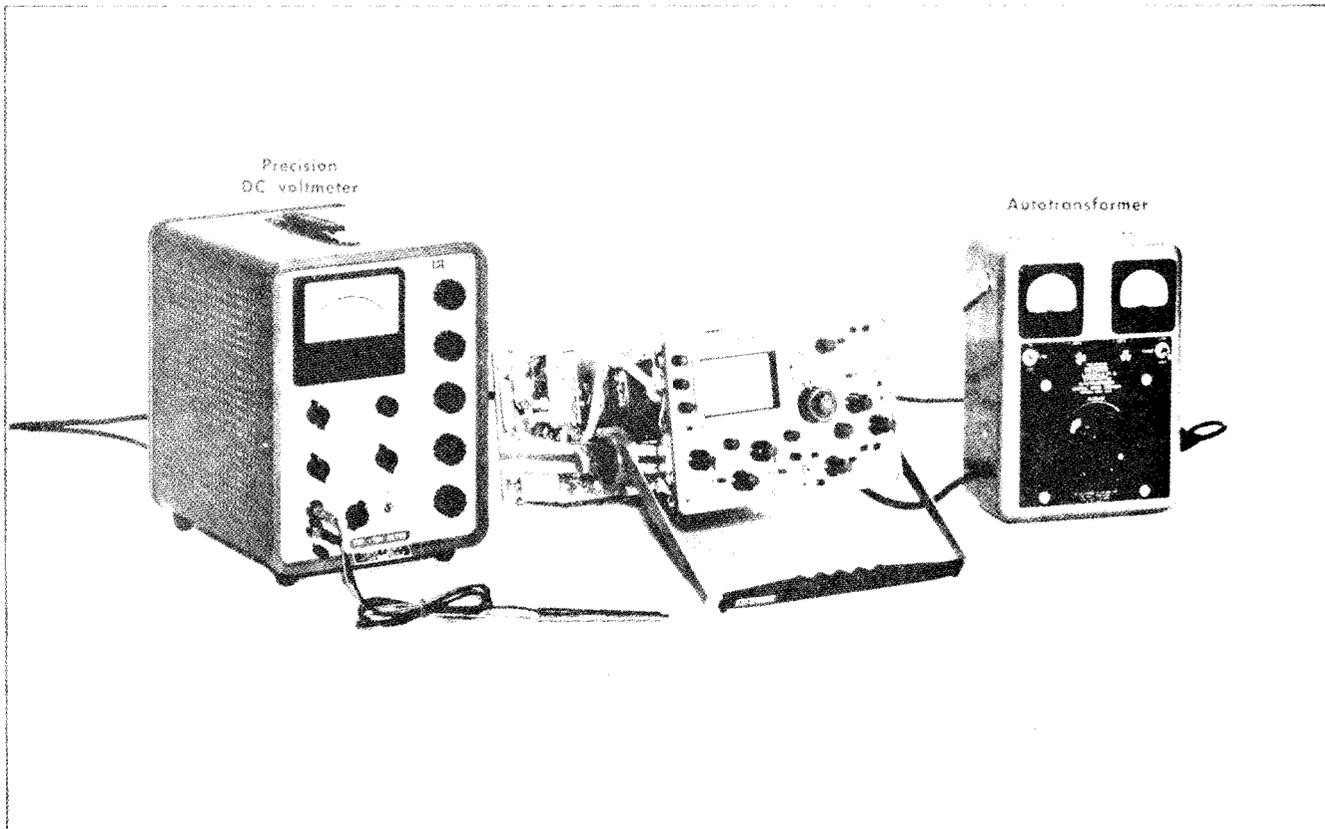

Fig. 6-3. Initial test equipment setup for steps 1 through 5.
**1. Adjust - 12-Volt Power Supply** ①
- a. Test equipment setup is shown in Fig. 6-3.